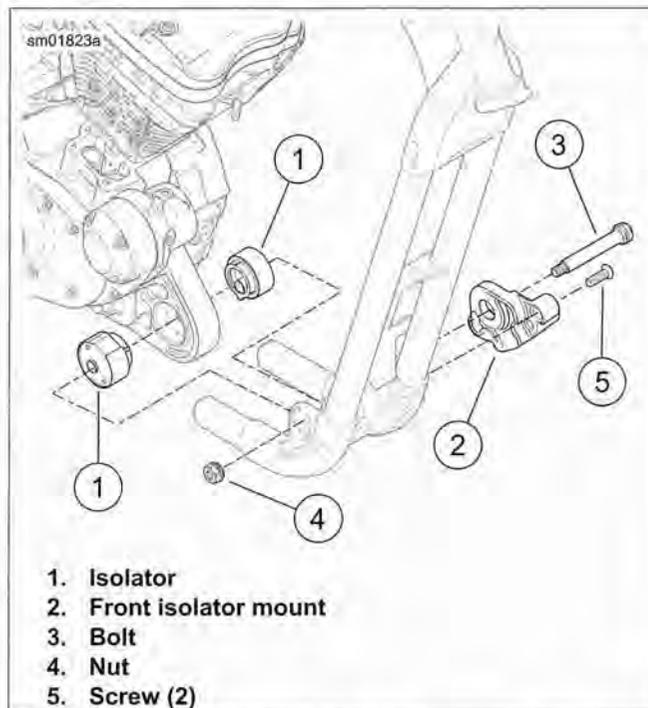

Figure 2-170. Front Engine Mount/Isolator
See Figure 2-170. Jack the engine up or down to remove bolt (3).
10. Remove nut (4) and bolt (3) from front engine mount/isolator assembly.
11. Remove screws (5) from front isolator mount (2) on left side of motorcycle. Remove isolator mount and left front isolator (1).
14. Remove the right front isolator (1) from the crankcase.
1. See Figure 2-170. Install both front isolators (1) in engine mounting boss on front of crankcase. Note that each isolator has a half-moon tab and fits into engine mounting boss in only one way. Push engine to the right until right isolator contacts frame boss.
2. Install front isolator mount (2) over left front isolator.
3. Install screws (5) through front isolator mount and thread into frame. Tighten to 25-35 ft-lbs (33.9-47.5 Nm).
4. Insert bolt (3) through front isolator/engine mount assembly from left side. Thread nut (4) onto bolt. Tighten to 95-105 ft-lbs (129-142 Nm).